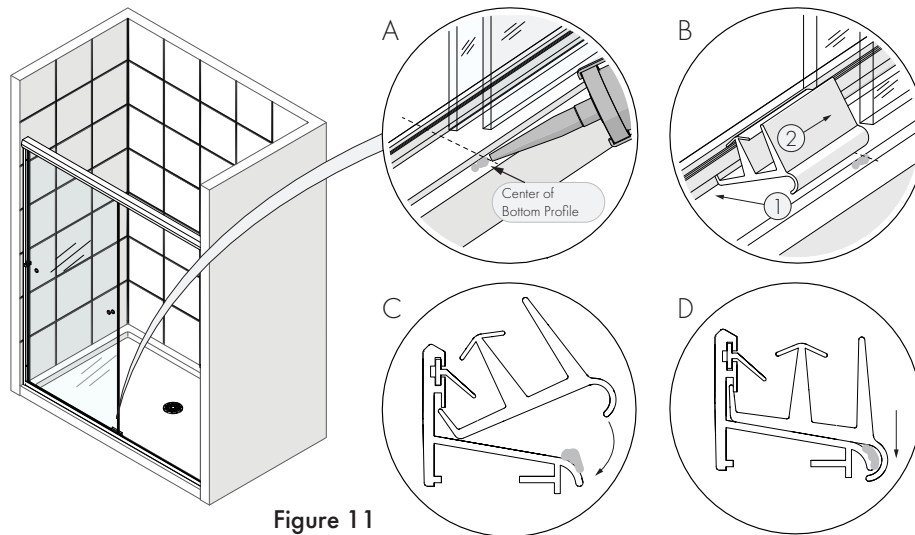

Figure 11
- B. (1) Insert the front lip of the *Center Guide* into the slot on the inside of the *Bottom Profile* and snap the *Center Guide* down over the inside of the *Bottom Profile*. (2) Move the installed *Center Guide* to the center of the *Bottom Profile*, halfway beneath the door glass. As an option, drill a $\text{Ø } 1/8''$ hole through the *Center Guide* and into the *Bottom Profile*. Install a #6 x 3/8" *Pan Head Screw*– #07. Fig 11